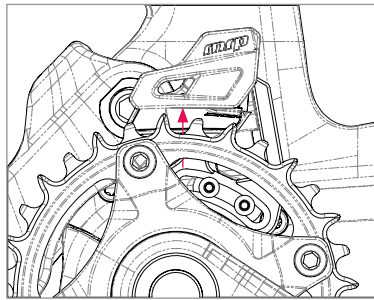

Figure 12
3. Move the chain guide out of the way by firmly pushing up on the head plate, it will pop up, allowing for unobstructed removal of the chain from the ring (Fig. 12). Remove the chain from the chainring and drape the chain out of the way on the right chainstay. If the chainring + spider assembly is being removed, slide it off the DU spindle now.